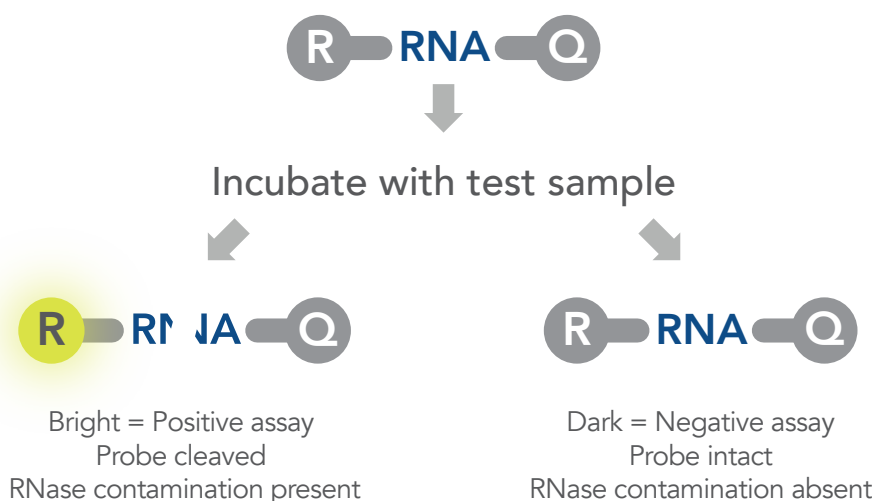

Figure 1. How RNaseAlert Substrate works.
The RNaseAlert Substrate is a synthetic RNA oligonucleotide that has a fluorescein (R) on one end and a dark quencher (Q) on the other end. Its sequence has been carefully designed to react with a wide variety of ribonucleases. Intact, the substrate has little or no fluorescence. When cleaved by an RNase, the substrate fluoresces green (490 nm or UV excitation, 520 nm emission) and can be detected visually or by using a fluorometer (Figure 1).